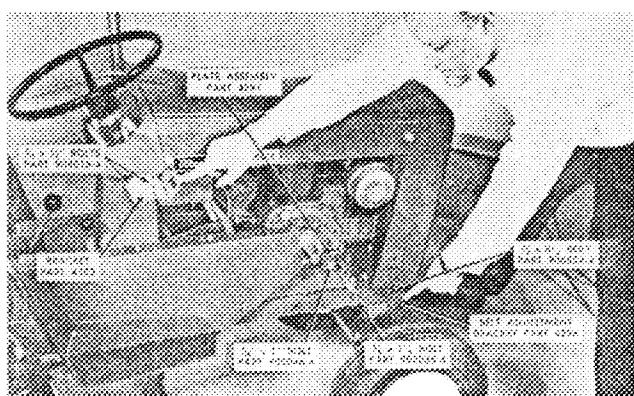

Figure 4
Mount plate assembly, Part 4291, to engine face by removing $\frac{7}{16}$ x 1" bolt (which holds lower belt guide angle on) and place plate assembly in position as shown in Figure 4. Replace bolt and lockwasher and tighten. **NOTE:** In tractors without the lower belt guide angle a $\frac{3}{8}$ " x $1\frac{1}{4}$ " x $2\frac{3}{4}$ " spacer which is provided must be used under the plate assembly. Bolt to engine using the extra $\frac{7}{16}$ x 1" bolt and lockwasher.
Install bracket, Part 4383, to tractor as shown in Figure 4 using (2) $\frac{5}{16}$ " x $\frac{1}{2}$ " bolts Part 908015-4 and $\frac{3}{16}$ " lockwashers.
Install belt adjustment bracket as shown in Figure 4 using $\frac{3}{8}$ " x $8\frac{1}{2}$ " bolt, Part 900854-4 in the front hole of the tractor frame and the $\frac{3}{8}$ " x $1\frac{1}{4}$ " bolt, Part 908035-4 in the rear bracket hole.